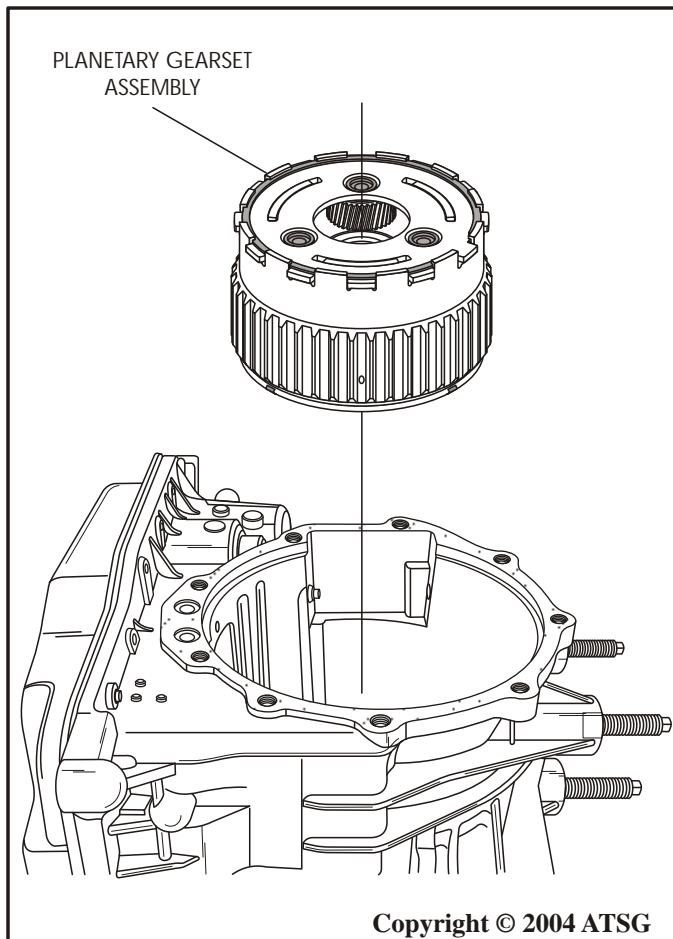

Figure 30
18. Remove the planetary gearset from transaxle by lifting straight up, as shown in Figure 30.